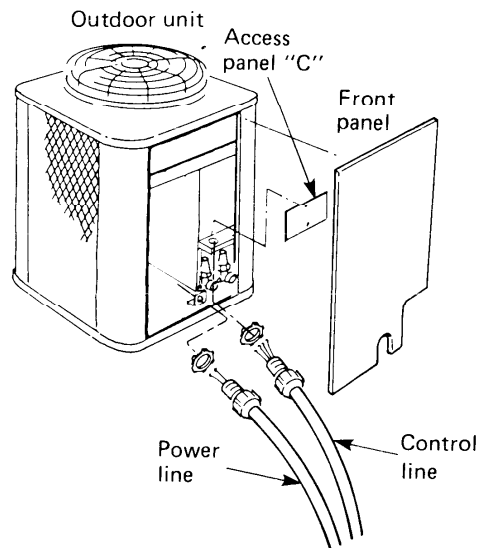

Fig. 20
- Remove front panel and access panel "C", then punch knockout holes on the panel. Fig. 20